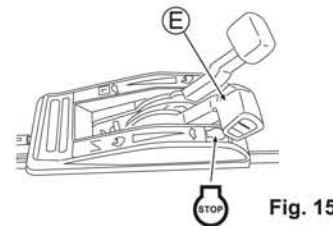

Fig. 15
2. Set Throttle lever (E) to "STOP". (See Fig. 15)